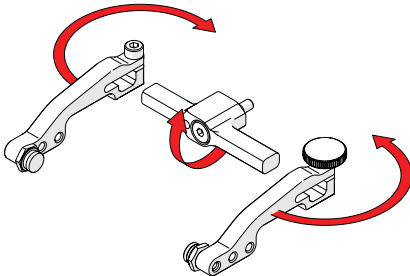

Fig. 87 - Flip yoke and reverse arms
3. Flip the yoke 180° and reverse the probe holder arms (*Fig. 87*).